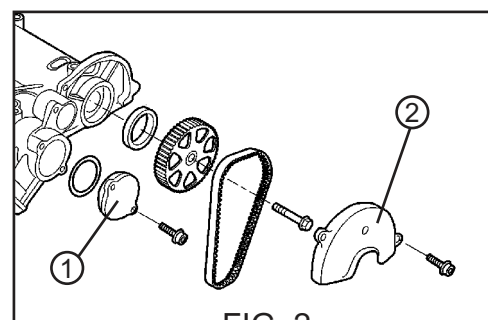

FIG. 2
- 1 The next step is to drain the coolant circuit and dismount the intake camshaft rear cover (1) [FIG. 2].
- 2 Dismount all necessary components to gain access to water pump cover (2) [FIG. 2]. Then, remove the water pump cover.